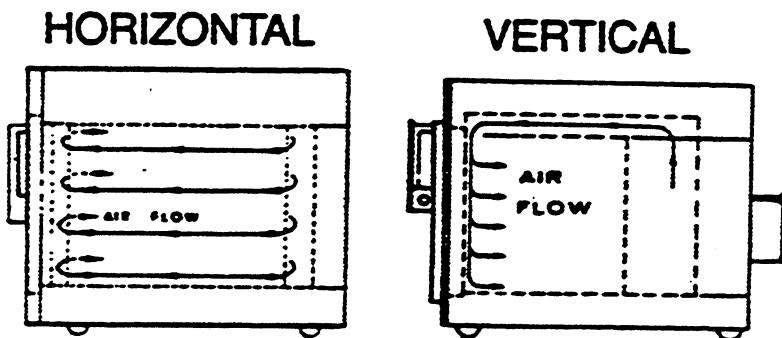

Figure 1-1. Chamber Air Flow Pattern
1.3.2 Each chamber is equipped with a Model 9010 Temperature Controller. Closed air circulation is provided by one to four 140 CFM blowers, depending on chamber model ordered (reference Figure 1-1). The chamber is heated by applying full wave power to bobbin wound nichrome heating elements via the UP and DOWN arrows on the Controller (press until desired